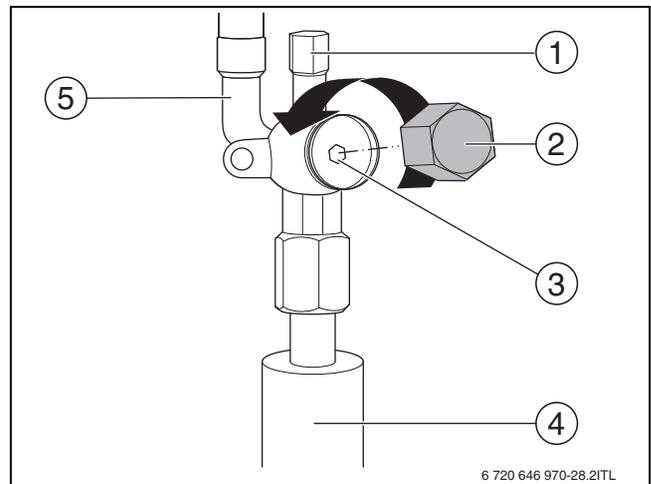

Fig. 77 Shut-off valve on the liquid refrigerant pipe work
- ▶ Connect a high performance vacuum pump to the Schrader valve (→ Fig. 77, [1]).